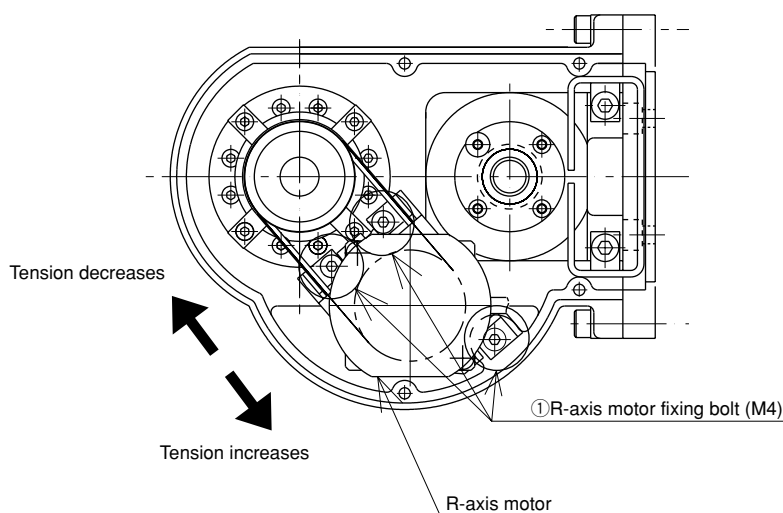

Fig. 8-28 ZRS belt tension
- 6) Loosen the M4 bolt ① (three positions) shown in Fig. 8-28.